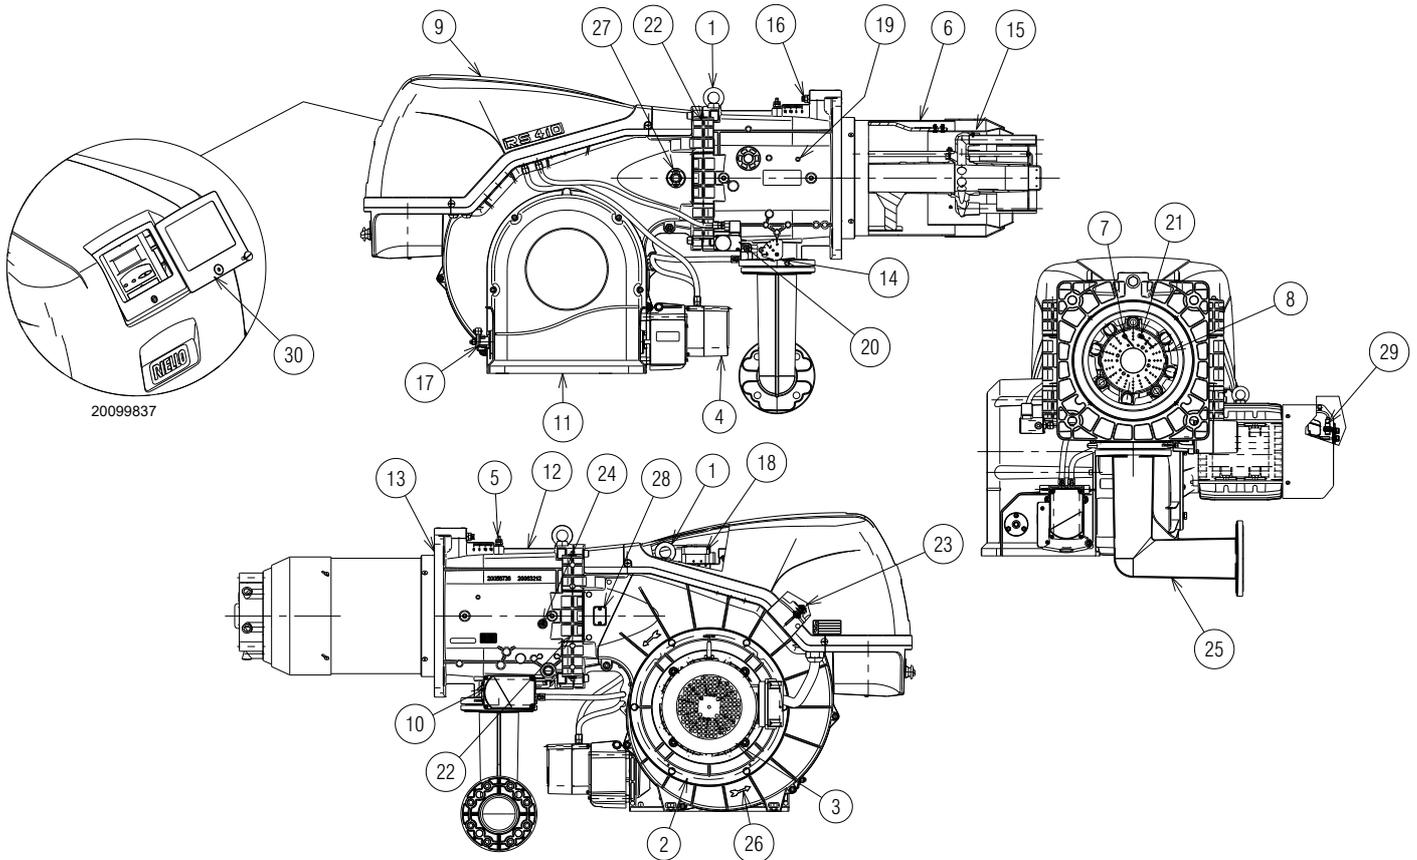

Fig. 5
- (1) Reference conditions: Ambient temperature 20°C - Gas temperature 15°C - Barometric pressure 1013 mbar - Altitude 0 m a.s.l.
(2) Pressure at the test point of the pressure switch 5)(Fig. 5 on page 12) with zero pressure in the combustion chamber and at maximum burner output.
(3) Sound pressure measured in manufacturer's combustion laboratory, with burner operating on test boiler and at maximum rated output. The sound power is measured with the "Free Field" method, as per EN 15036, and according to an "Accuracy: Category 3" measuring accuracy, as set out in EN ISO 3746.